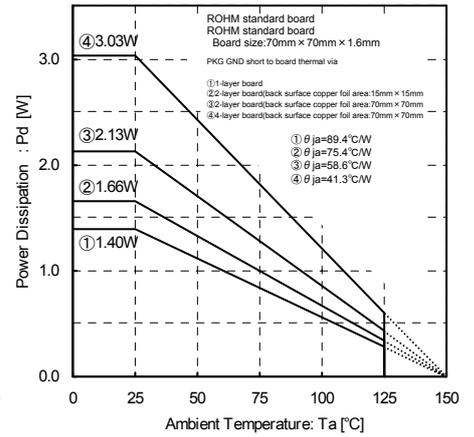

Fig.21
Power consumption Pc(W) calculation will be as below (for Fig.21④)
(Fig.21④: $\theta_{ja} = 41.3^\circ\text{C/W} \rightarrow 24.2\text{mW}/^\circ\text{C}$